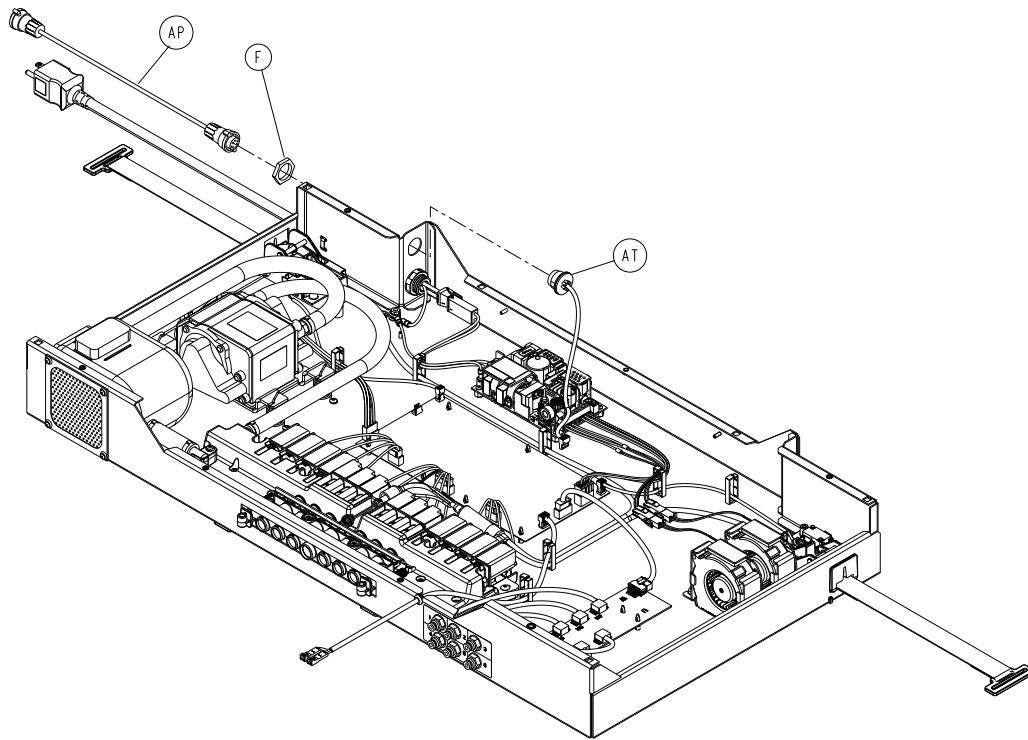

Figure 16 – Bed integration cable connector
2. Using your fingers, disconnect the bed integration cable connector (AP) from the foot box and rotate the turn-lock counterclockwise (Figure 16).
3. Using a 1" combination wrench, remove the plastic retaining nut (F) on the bed integration cable connector that secures it to the foot box. Save the nut.
4. Disconnect the can inner cable (AT) from the main board (connector J).